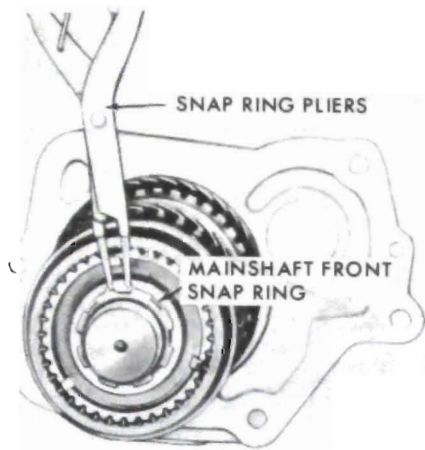

Figure 72-409 - Removing Main Shaft Front Snap Ring
1. Remove mainshaft front snap ring. See Figure 72-409 and remove third-fourth speed synchronizing assembly by holding synchronizing assembly and tapping front of mainshaft with a plastic hammer. Remove third speed gear and blocking ring from front of mainshaft.